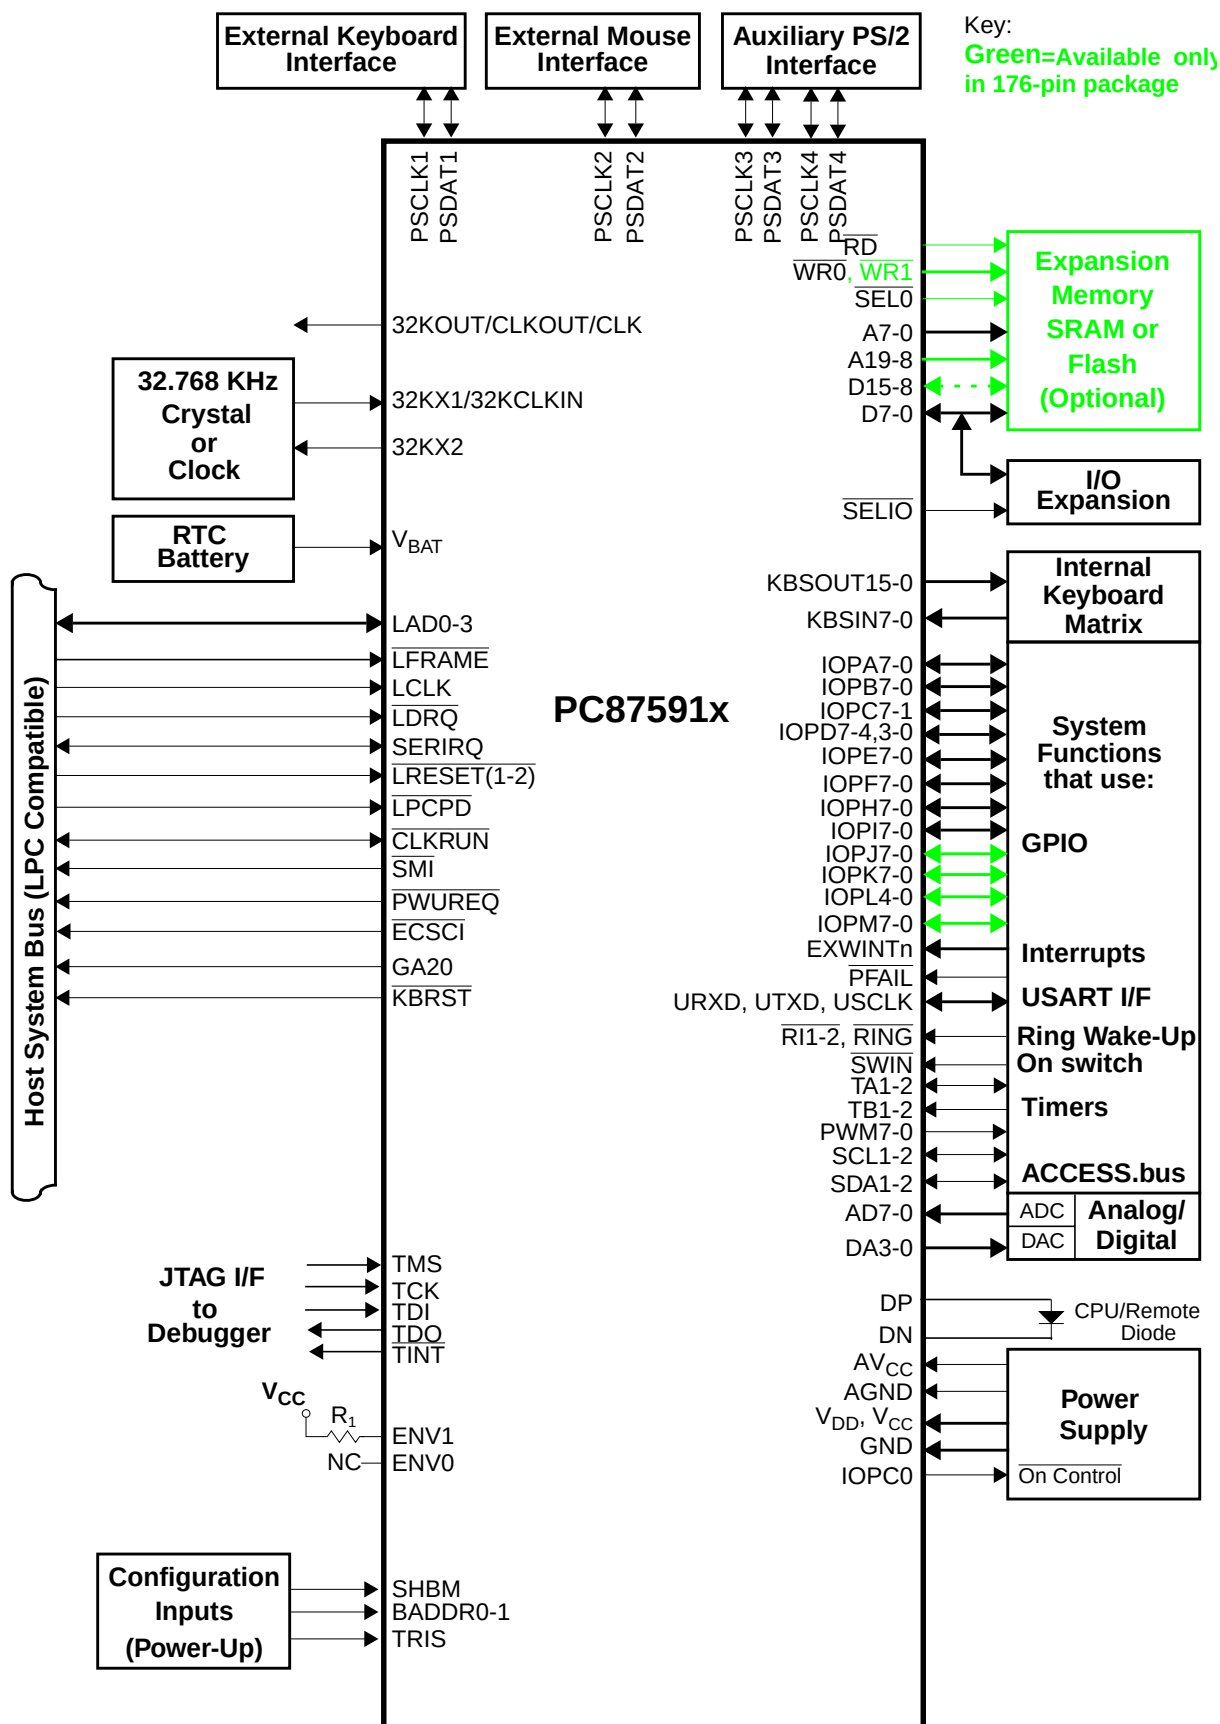

Figure 3. OBD Environment PC87591x System Connections Diagram, 128-Pin and 176-Pin Packages
See Figure 3 on page 31 for a system example in OBD environment. In this environment, the ENV0 and TRIS strap pins are left unconnected, and ENV1 requires an external pull-up resistor. If the flash Contents Protect bit in the protection word is cleared (0), the PC87591x remains reset until the bit is set. See Section 4.16.6 on page 230.